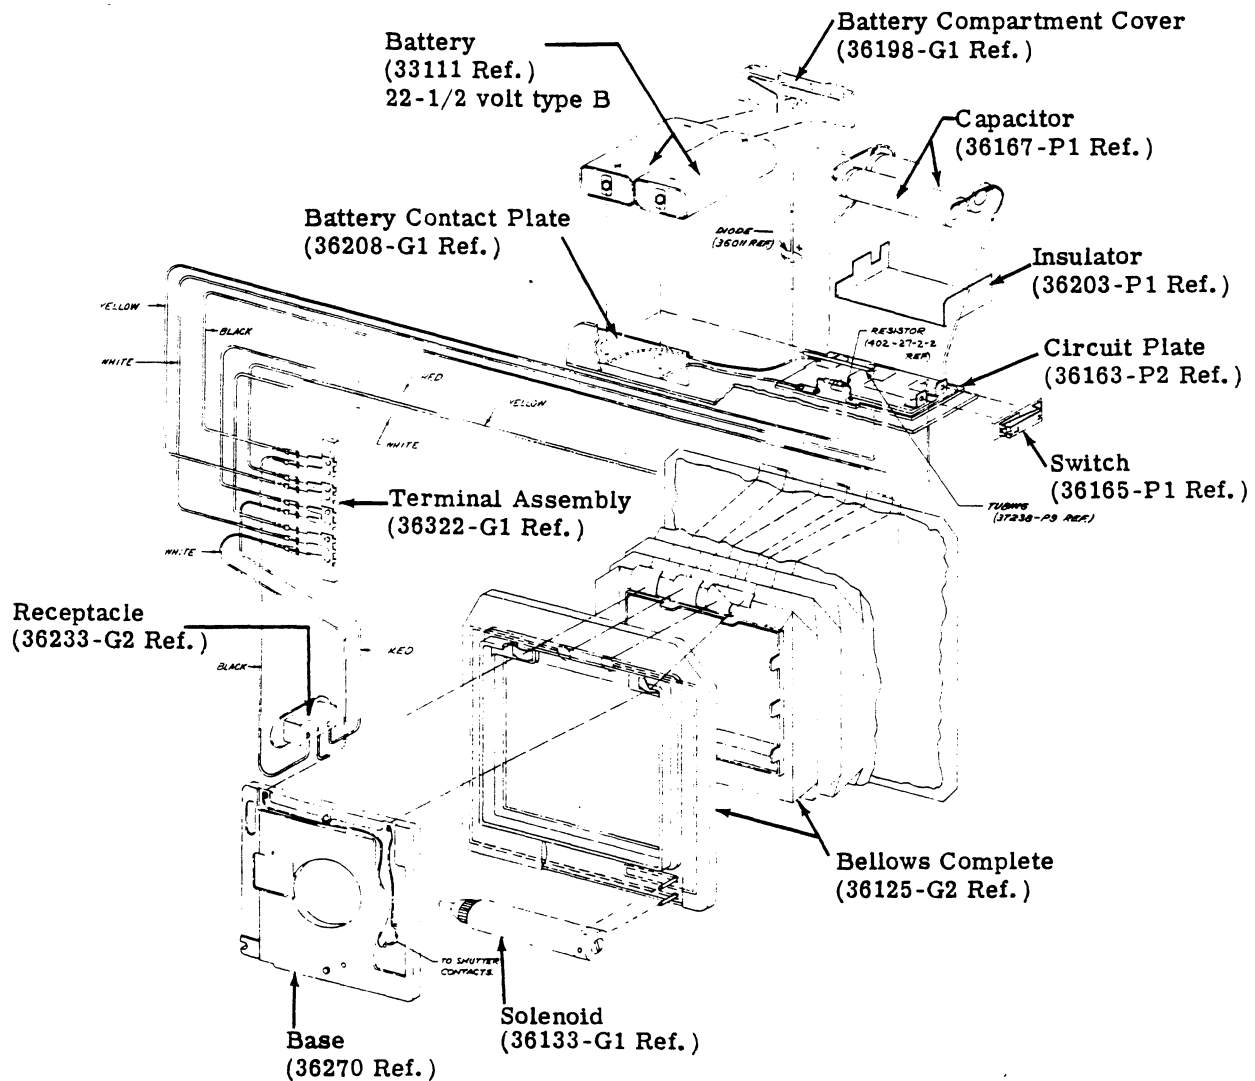
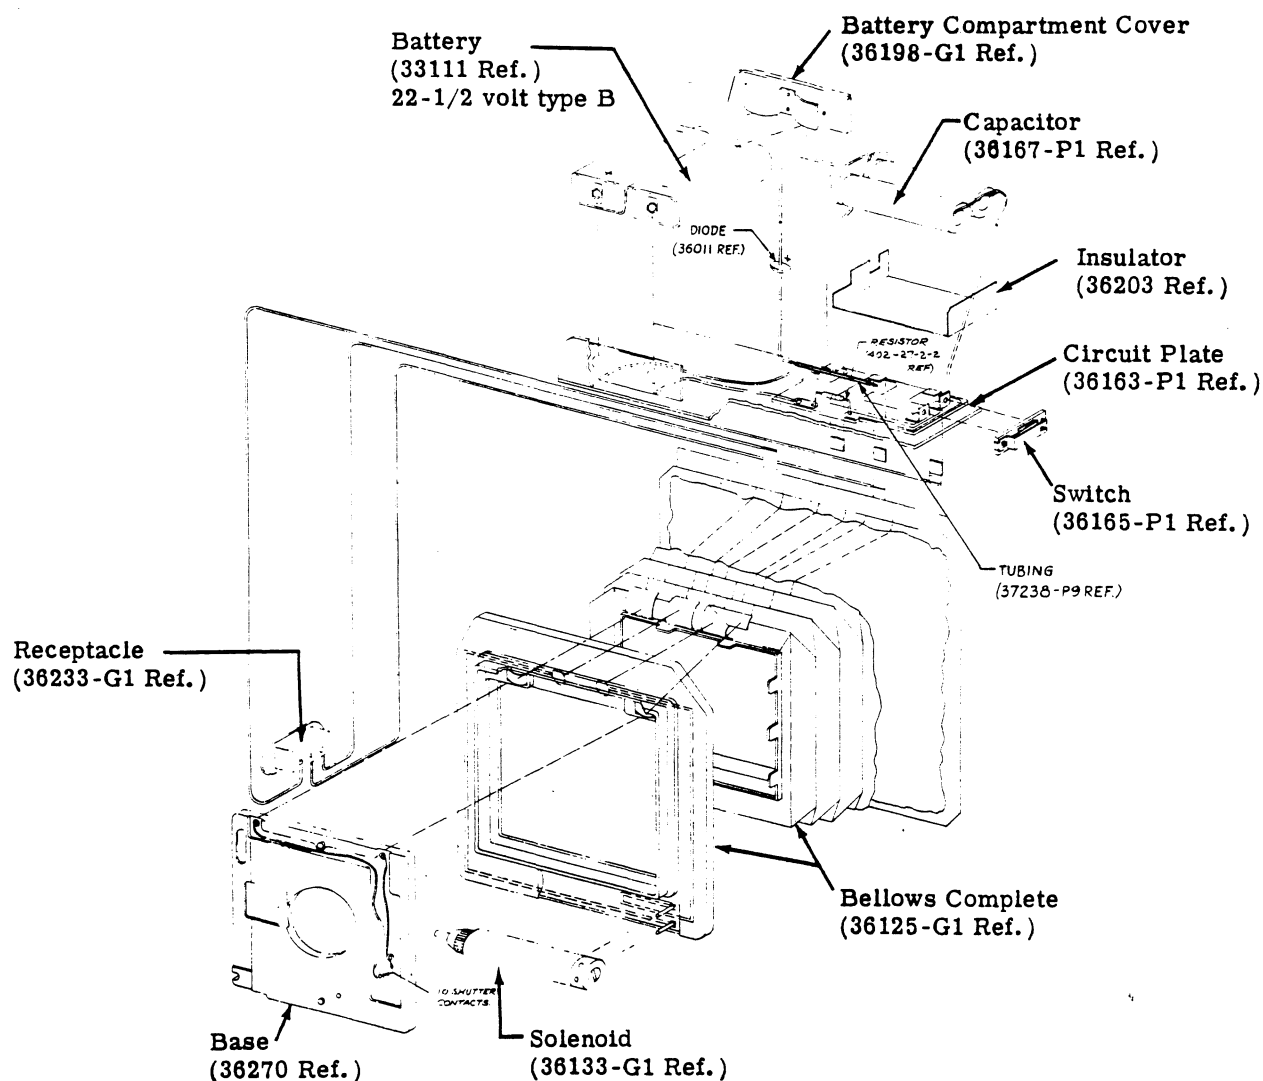

Figure 4. PHYSICAL DIAGRAM (Cameras over serial No. 646124)
Figure 4A. PHYSICAL DIAGRAM (Cameras up to serial No. 646124)
**NOTE:** Current cameras bearing serial numbers over 646124, have taper tab type wiring (see figure 4). Early cameras bearing serial numbers up to 646124, have soldered wire connections (see figure 4A). The test procedure is based on the early cameras; however, the test can also be used as a guide for current cameras having taper tab type wiring.